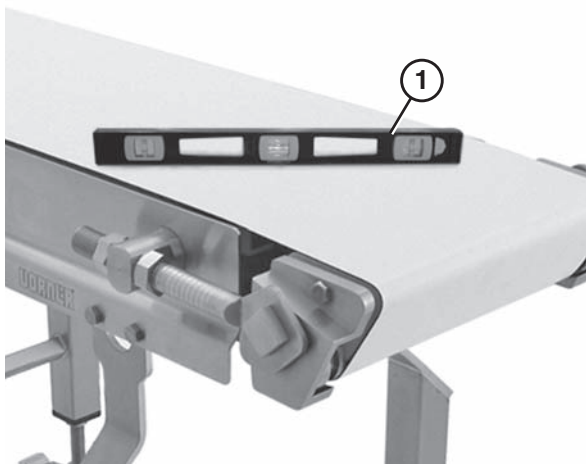

Figure 3
Conveyor **MUST** be mounted straight, flat, and level within confines of conveyor. Use a level (Figure 3, item 1) during setup.